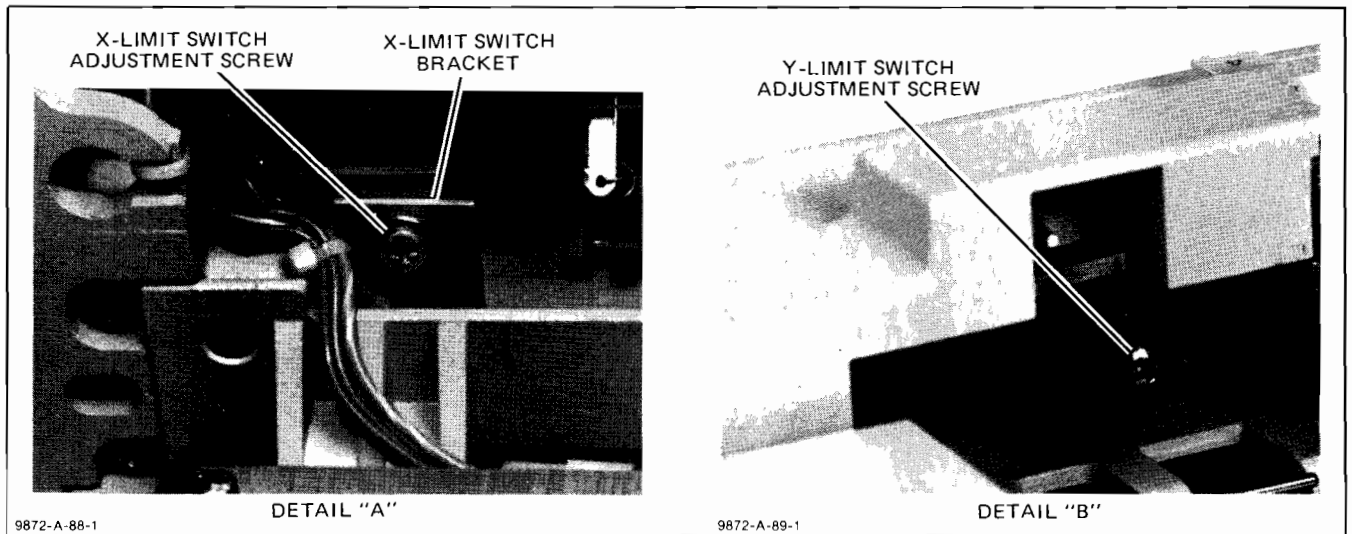

Figure 3-10. Limit Switch Adjustment
- g. Listen for the sound of the pen-in-arm switch and then the Y-limit switch. If this sequence is not detected, adjust the Y-limit switch. (Refer to Figure 3-10.)